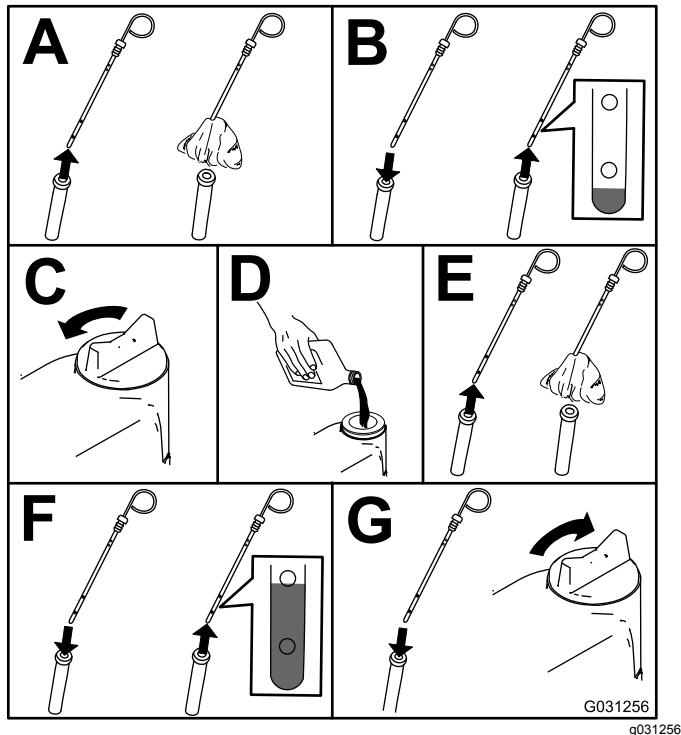

Figure 78
2. Check the engine-oil level (Figure 78).